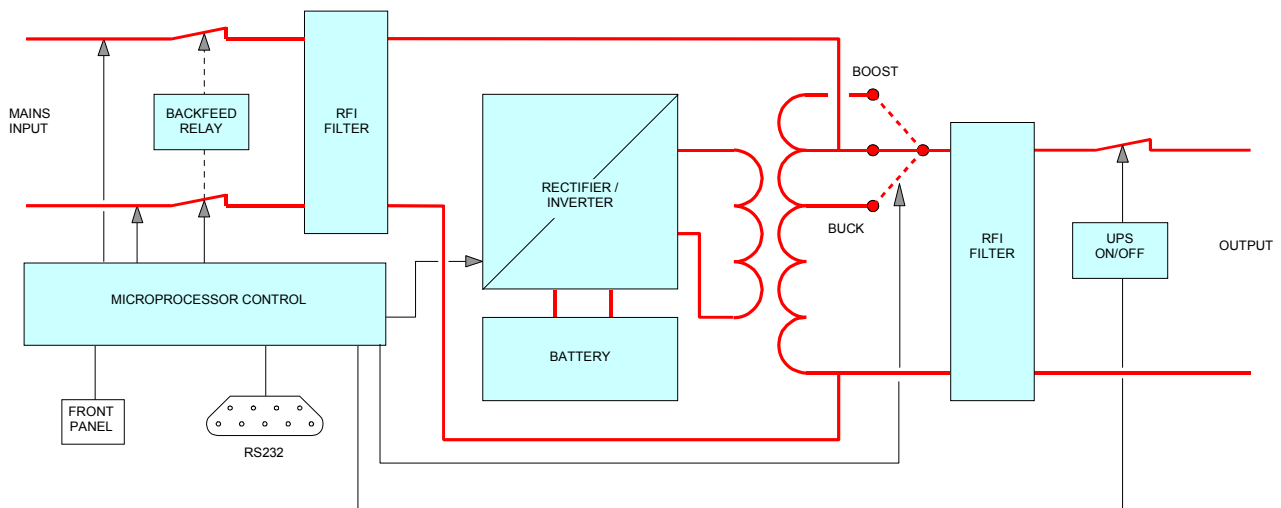

Fig. 1 Block diagram **Match** UPS
Energy is stored as Direct Current (DC), while input and output energy must be Alternating Current (AC). Therefore the UPS contains a rectifier (to convert from AC to DC) and an inverter (to change energy from DC to AC). (See fig.1)